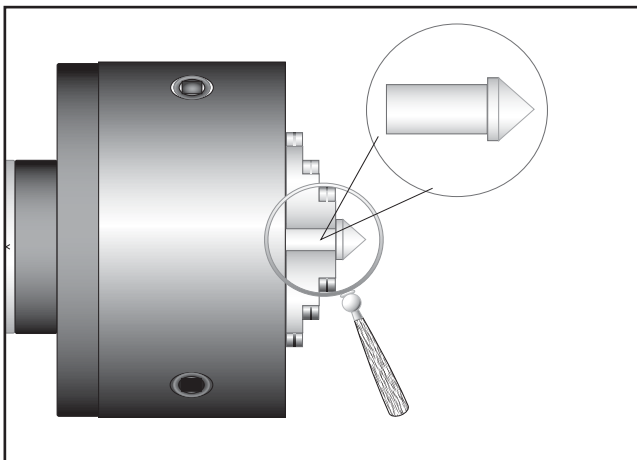

Figure 26. Chuck centering the dead center.
4. Using the other piece of stock, make a dead center by turning a shoulder to make a shank. Flip the piece over in the chuck and turn a 60° point (**Figure 26**).